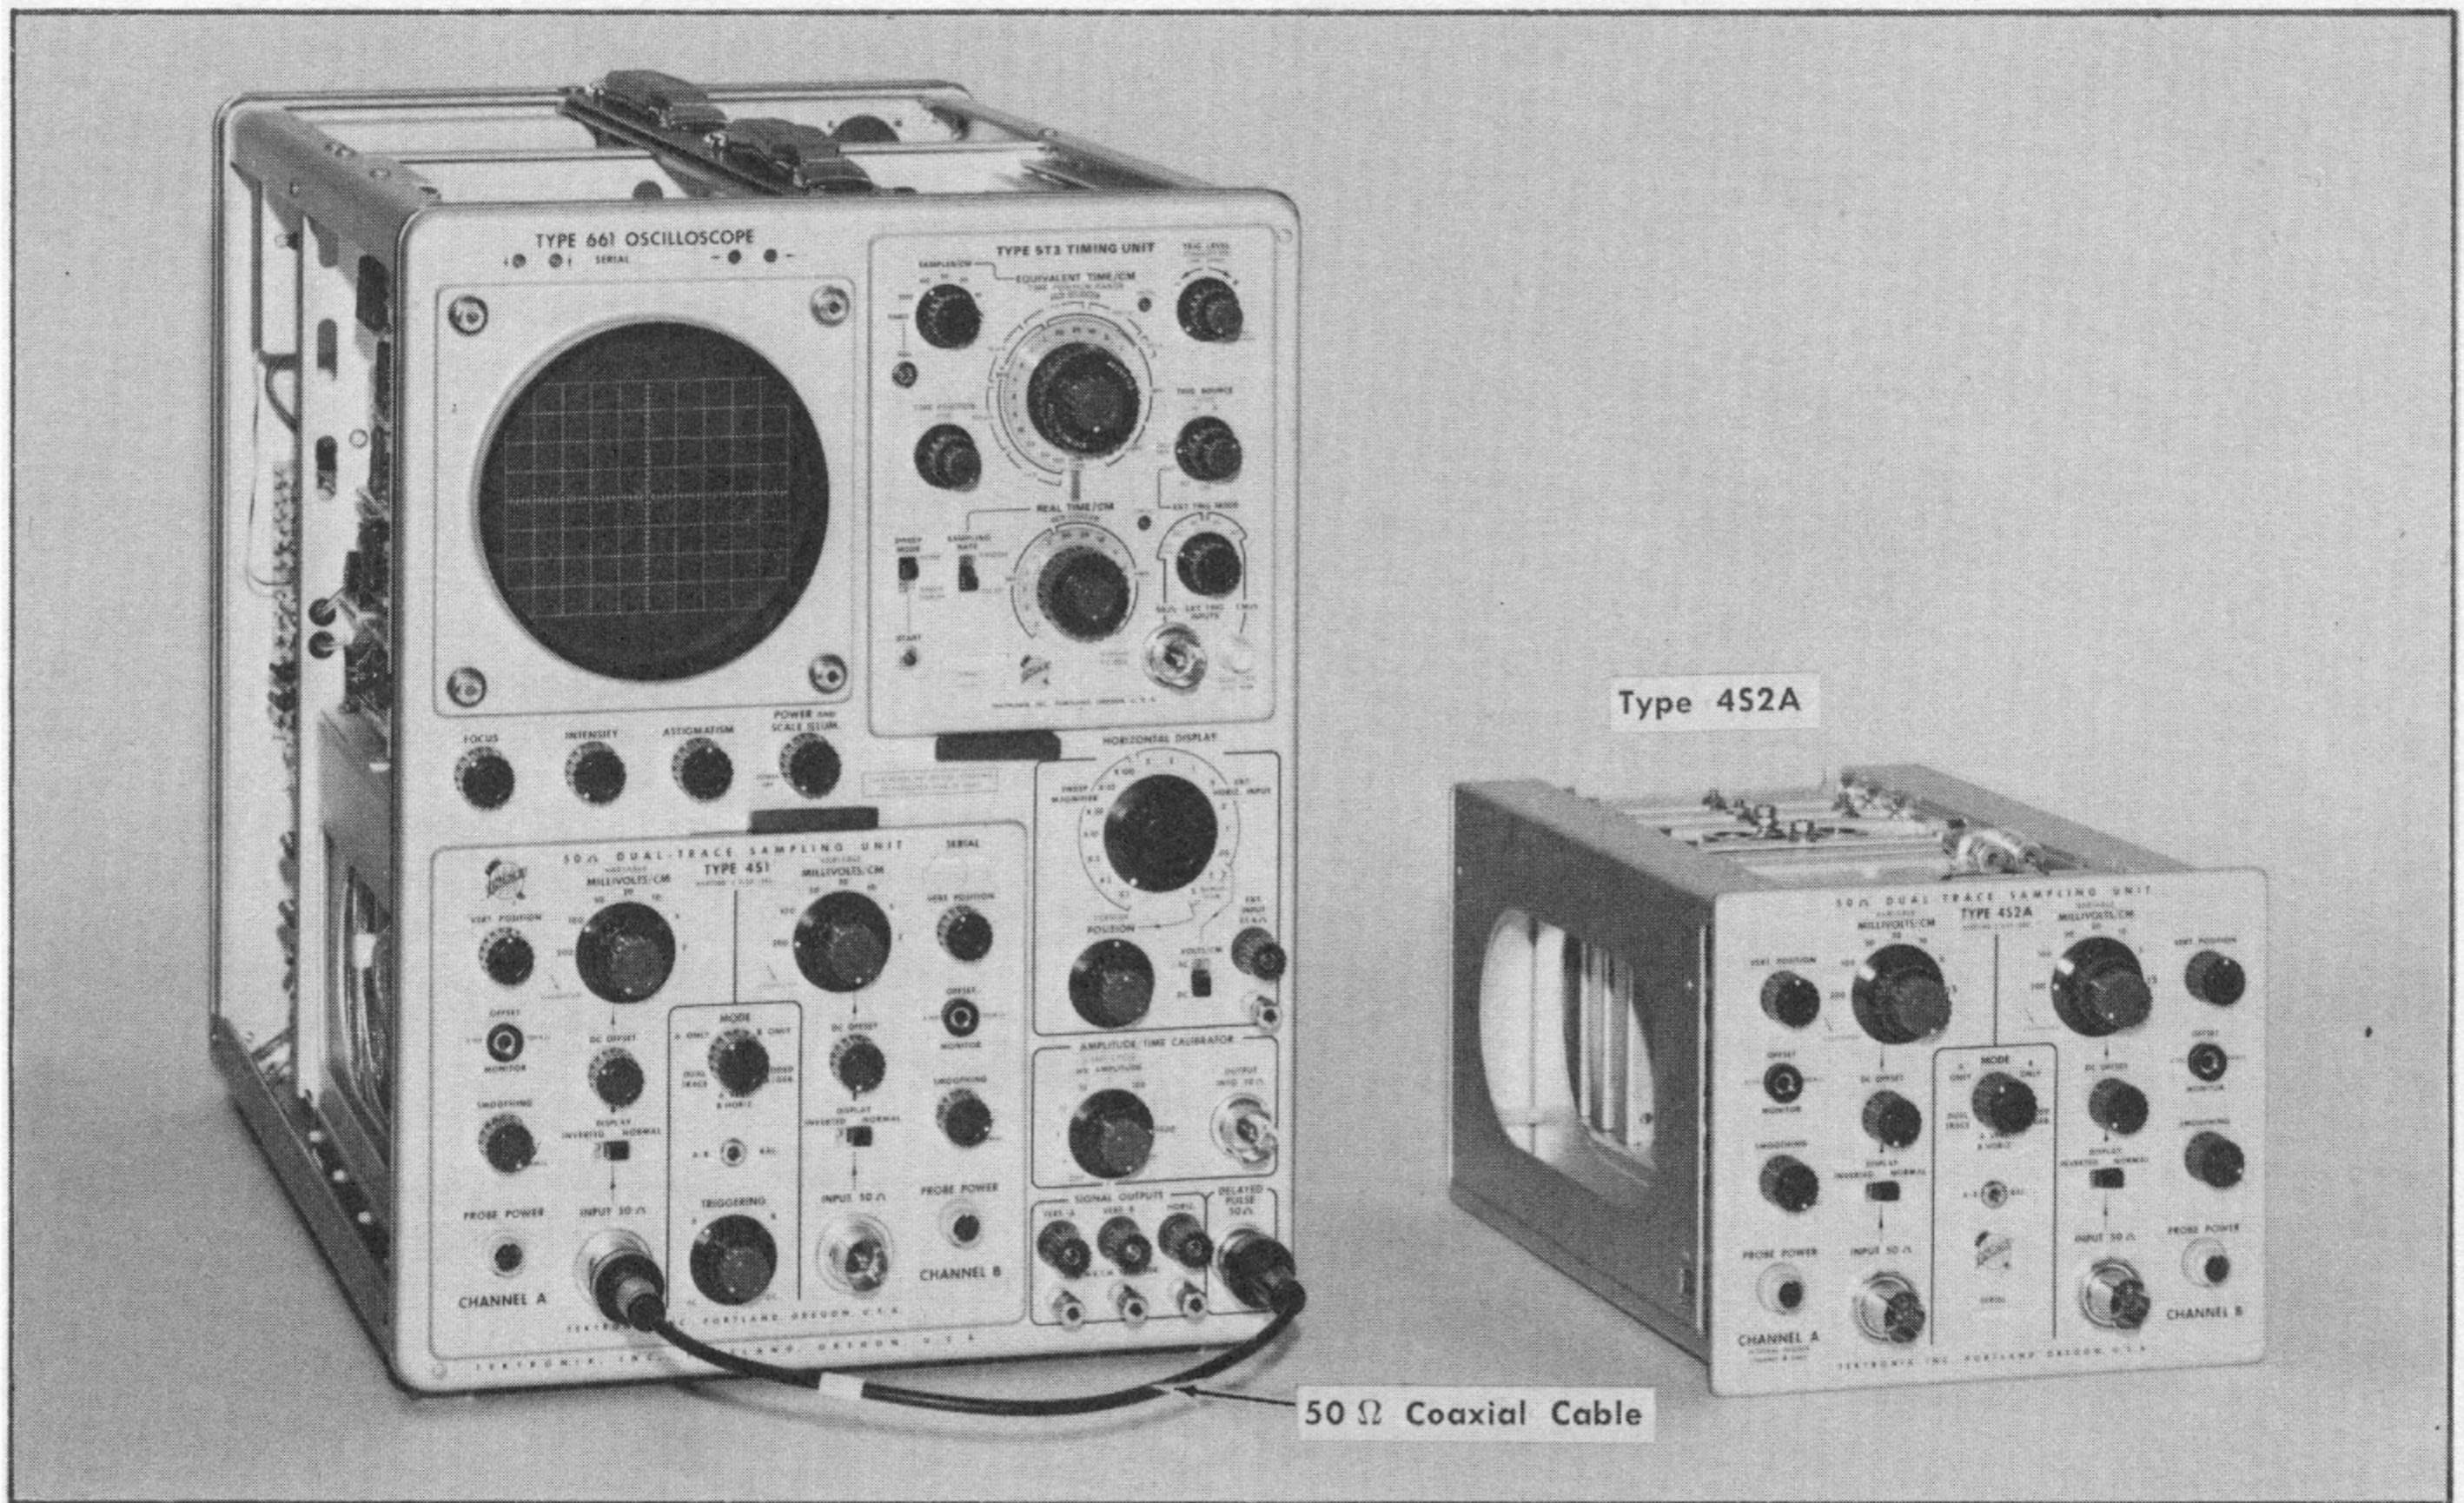

Fig. 6-21. Test equipment setup for step 22 and 23.
①
a. Use the equipment setup as shown in Fig. 6-21. Connect the 50 Ω coaxial cable from the Type 661 DELAYED PULSE 50 Ω connector to the sampling unit Channel A Input connector.
a. Use the equipment setup as shown in Fig. 6-21. Connect a 50 Ω coaxial from the Type 661 DELAYED PULSE 50 Ω connector to the Sampling Unit Channel A Input connector.
b. Set the Type 4S2A controls and connections as listed for the Type 4S1 below Fig. 6-21, where applicable, and set the Variable control for a display amplitude of 8 cm as in the preceding step.